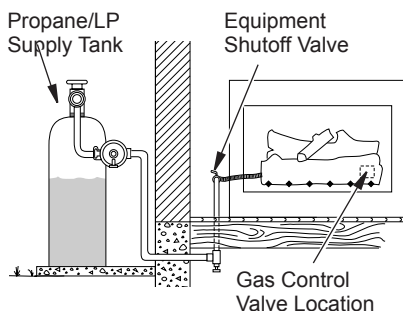

Figure 15 - Checking Gas Joints (Propane/LP Model Shown)
3. Check all joints from gas meter to equipment shutoff valve for natural gas or propane/LP supply to equipment shutoff valve for propane/LP (see Figures 15 and 16). Apply noncorrosive leak detection fluid to all joints. Bubbles forming show a leak.
4. Check all joints from equipment shutoff valve to gas control (see Figures 15 and 16). Apply noncorrosive leak detection fluid to all joints. Bubbles forming show a leak.